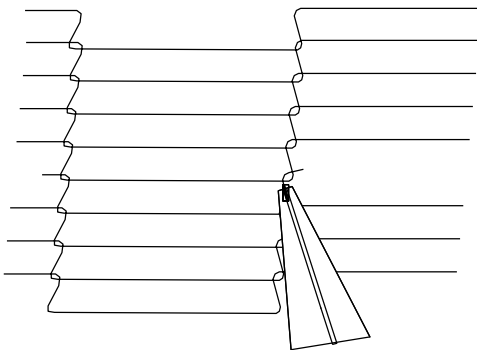

Figure 4-23.
2. Using long nose pliers, unhook master links at left end of conveyor as shown in Figure 4-23.